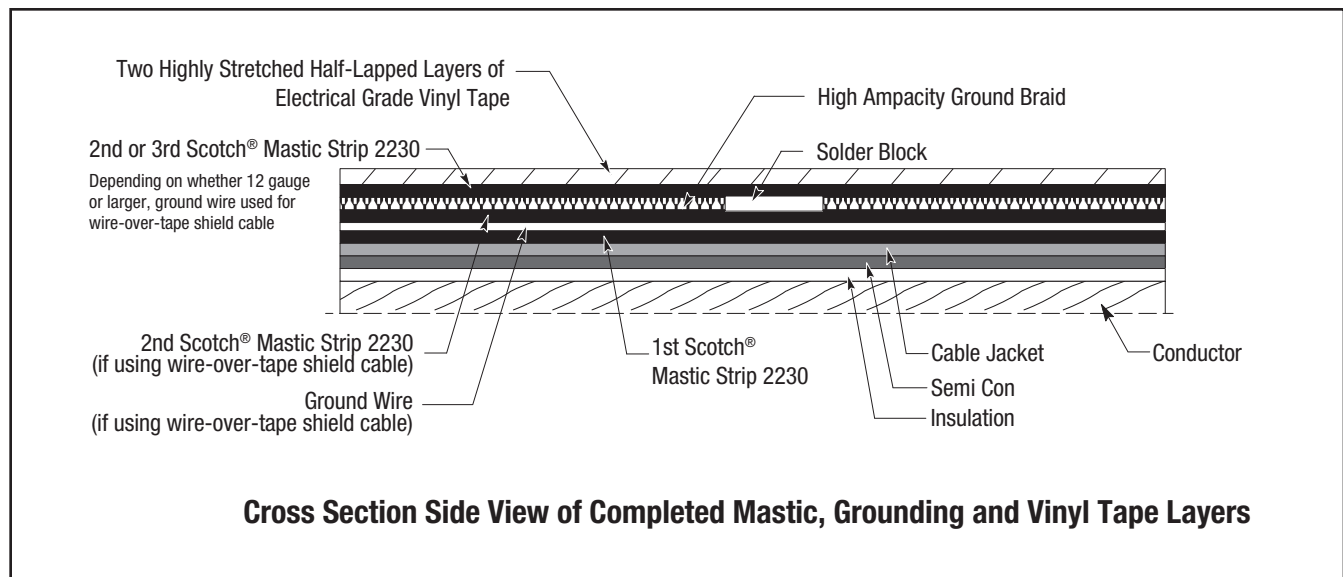

Figure 8
- 4.6 See Figure 8 for a Cross Section View of Completed Mastic, Grounding and Vinyl Tape Layers.